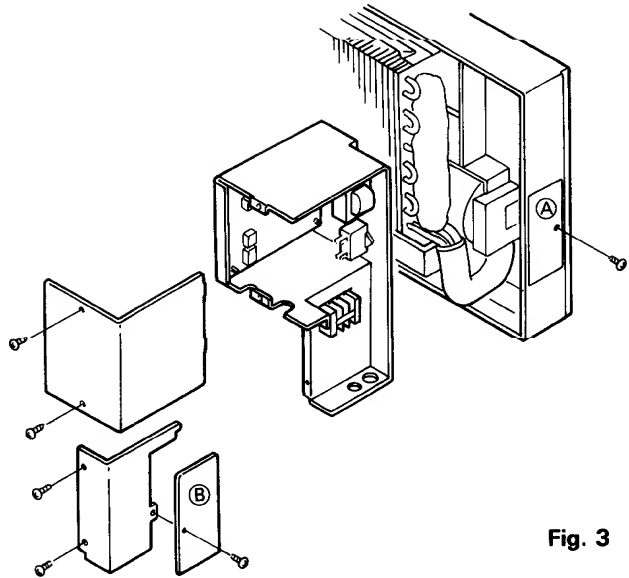

Fig. 3
- 5) Unfasten the screws in accordance with Fig. 3,4